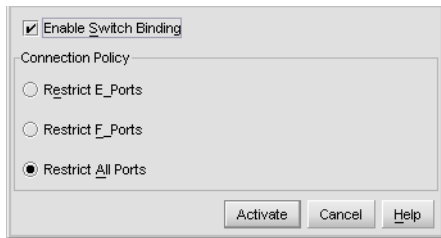

Figure 71 Switch Binding – State Change dialog box
1. Select **Configure > Switch Binding > Change State** from the **Element Manager** window. The Switch Binding – State Change dialog box is displayed (Figure 71).